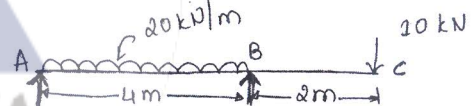

Fig.Q4
- 4 Draw shear force diagram and bending moment diagram for given beam Fig.Q4. (20 Marks)